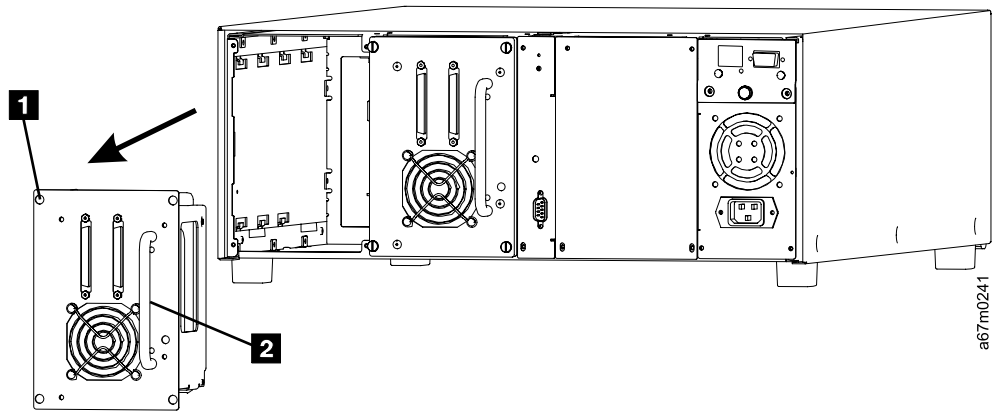

Figure 100. Removing the Drive Sled
4. Loosen the four captive thumbscrews **1** (see Figure 100 on page 252) on the drive sled and slide the drive sled out using the handle **2** (see Figure 100 on page 252).
16. Slide the drive sled into slot you removed it from using the handle **2** (see Figure 100 on page 252). Tighten the four captive thumbscrews **1** (see Figure 100 on page 252) on the drive sled. See “Replacing a Drive” on page 201.